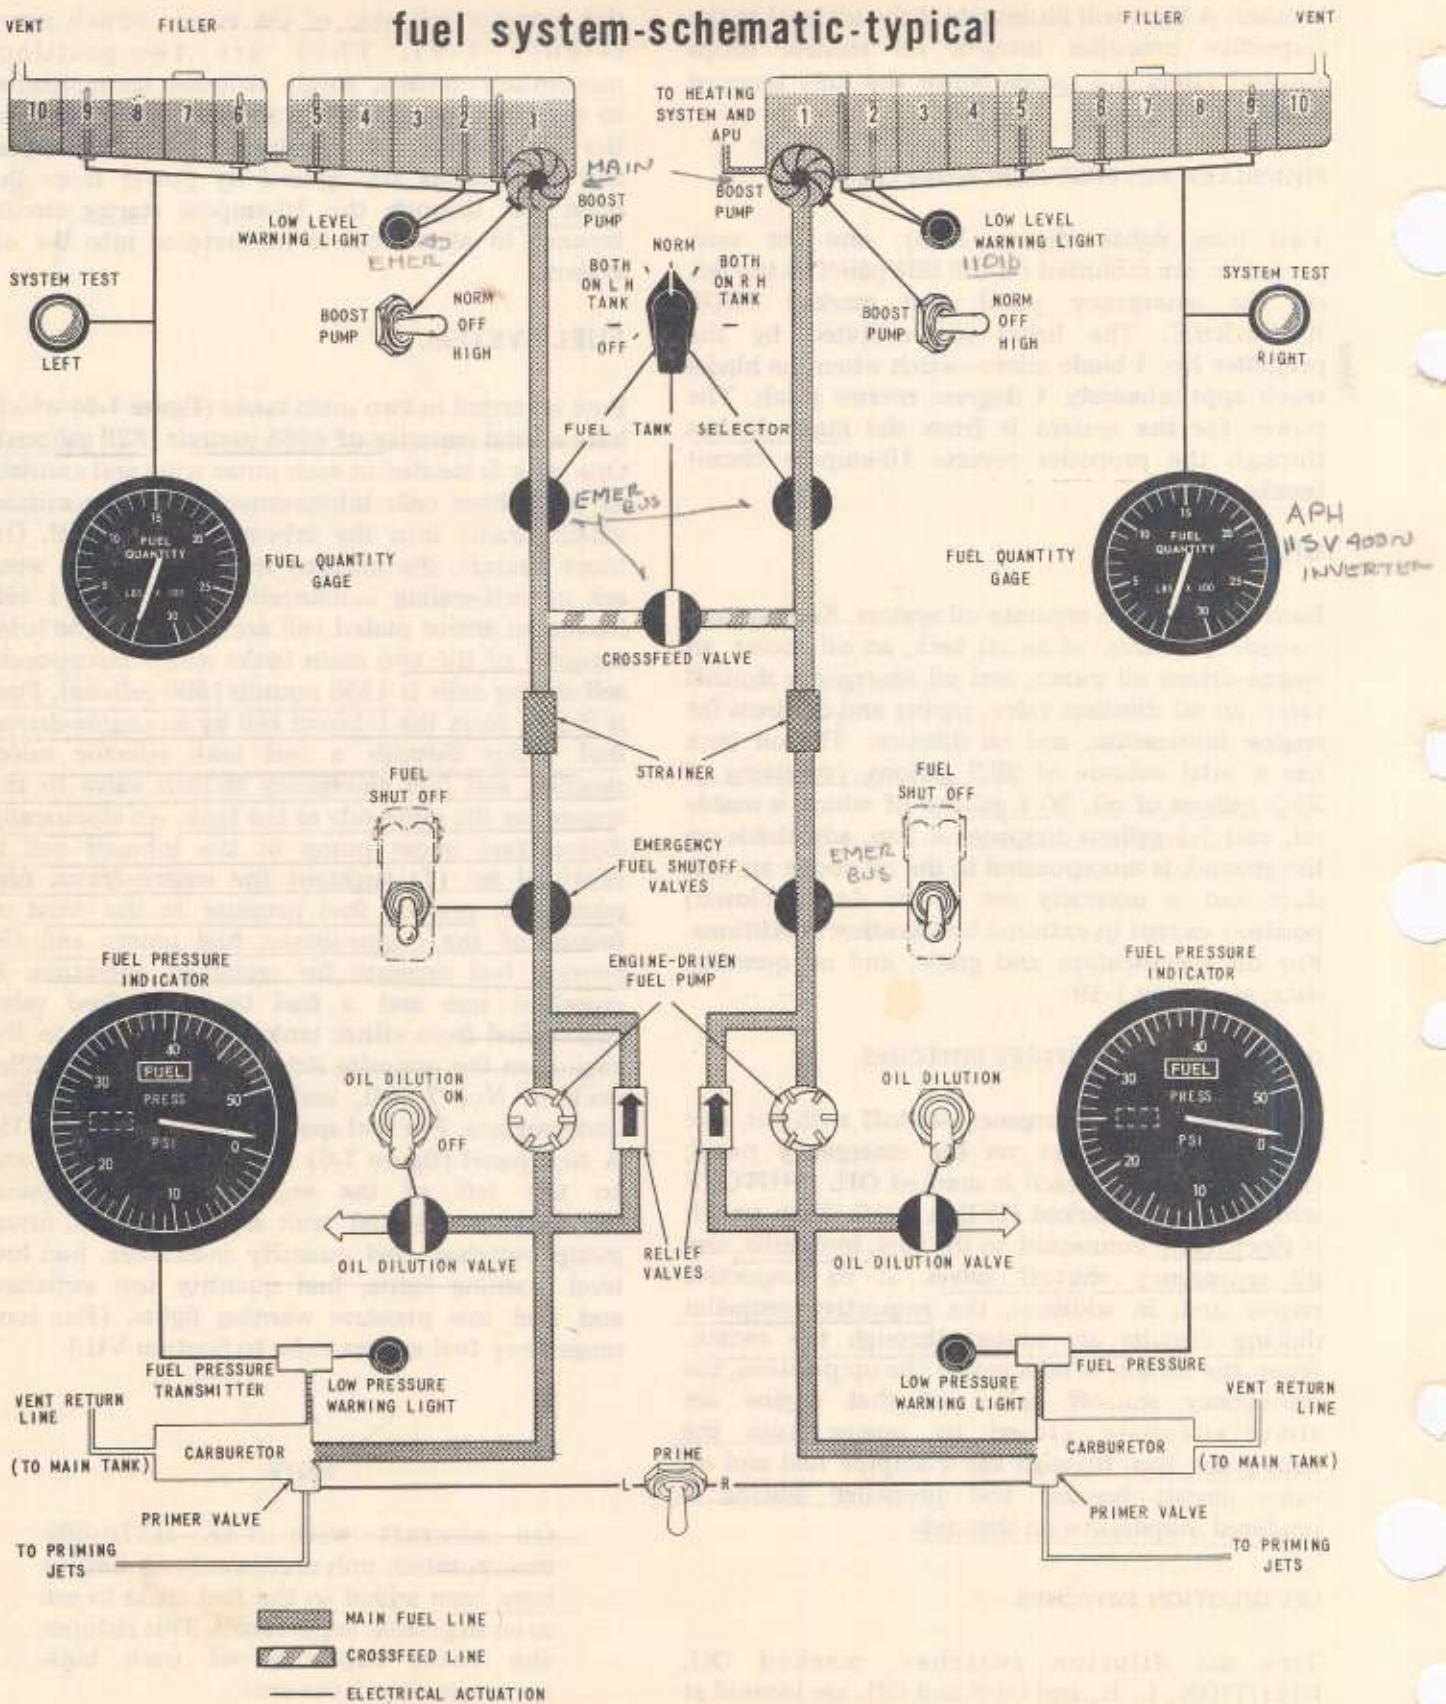

Figure 1-5
Fuel is carried in two main tanks (figure 1-5) which have a total capacity of 4968 pounds (828 gallons). One tank is located in each outer wing and consists of ten rubber cells interconnected by a manifold which drains into the inboard (No. 1) cell. On some aircraft, the inboard five cells in each wing are of self-sealing construction, with No. 1 cell having an armor plated cell access panel. The total capacity of the two main tanks which incorporate self-sealing cells is 4836 pounds (806 gallons). Fuel is drawn from the inboard cell by an engine-driven fuel pump through a fuel tank selector valve, strainer, and fuel emergency shutoff valve to the engine on the same side as the tank. An electrically driven fuel boost pump in the inboard cell is provided to: (1) augment the engine-driven fuel pump; (2) provide fuel pressure in the event of failure of the engine-driven fuel pump; and (3) provide fuel pressure for crossfeed operation. A crossfeed line and a fuel tank crossfeed valve enable fuel from either tank to be supplied to the engine on the opposite side. Each tank has a filler neck in No. 7 cell, and is vented to the wing undersurface. For fuel specification see figure 1-19. A fuel panel (figure 1-6) in front of the pilot and to the left of the engine instrument panel incorporates the fuel tank selector switch, boost pump switches, fuel quantity indicators, fuel low level warning lights, fuel quantity test switches, and fuel low pressure warning lights. (For long range ferry fuel system refer to Section VII.)